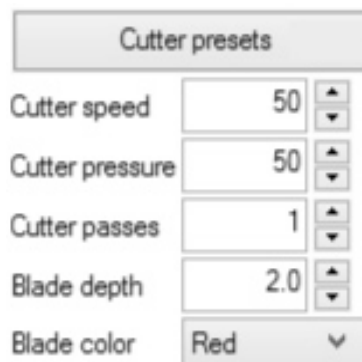

Fig. 3
10. The *Object Properties* dialog on the right of your screen shows the active technique. Cut should be selected. Click on Cutter presets to select the desired settings for the material that will be used (See Fig. 3).